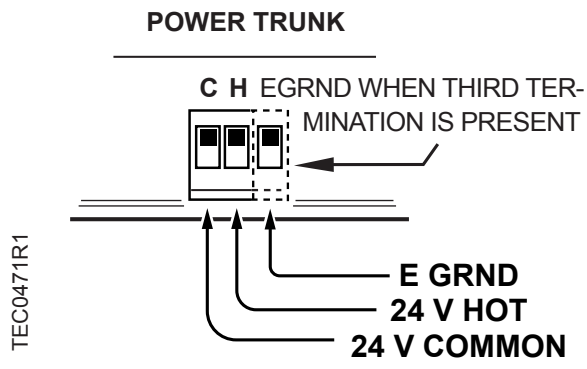

Figure 3. Power Trunk Wiring.
7. Connect the power trunk (Figure 3). DO NOT apply power to the controller.